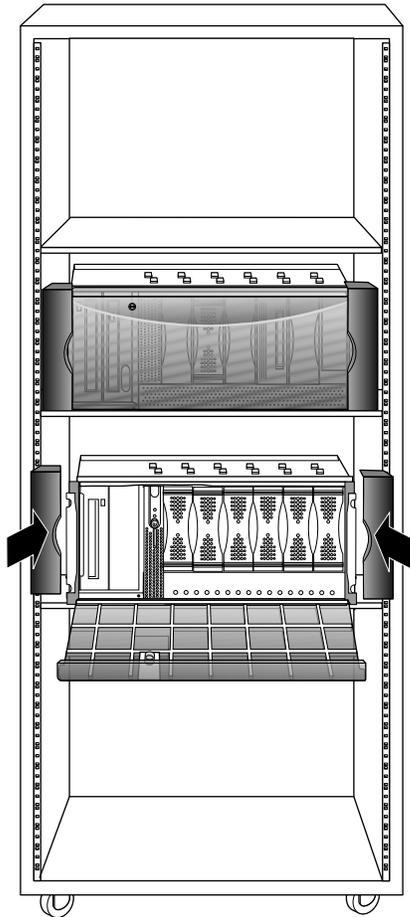

Figure 3-5 Attaching the Plastic End Caps to a Rackmounted Server
6. Attach the plastic end caps to the front of the server to conceal the mounting flange, as shown in Figure 3-5.